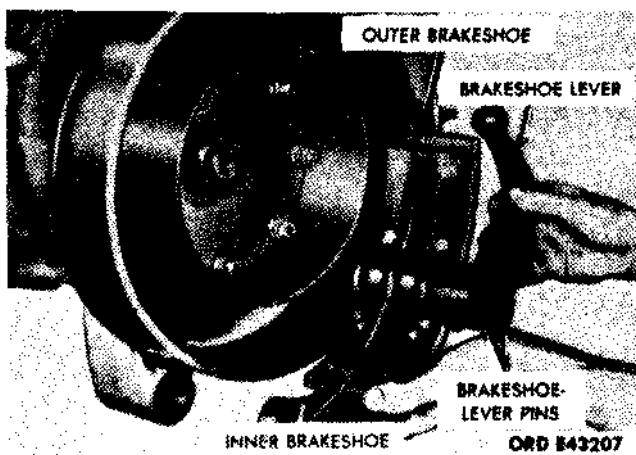

Figure 2-187. Removing handbrake shoe and lever assembly.
(6) Remove the shoe anchor bolt from the bore at the lower end of the outer shoe.
(7) Spread the inner and outer shoes (fig. 2-187), and remove the shoe and lever assembly from the brakedrum.
(8) Remove the C washer from the front end of the two brakeshoe lever pins (fig. 2-187). Remove the inner and outer shoes from the pins.
(1) Position the inner and outer brakeshoes (fig. 2-187) on the brakeshoe lever pins, and install the C washer at the front end of both pins.
(2) Position the shoe and lever assembly on the brakedrum (fig. 2-187).